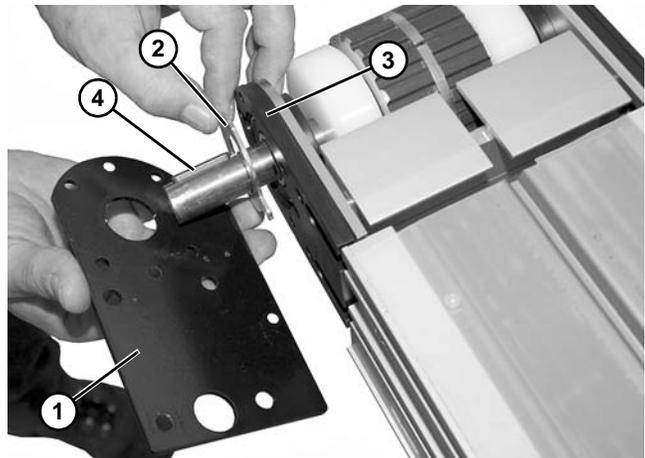

Figure 43
3. Pull back the outer headplate (Figure 43, item 1), and remove the washer (Figure 43, item 2) and inner spacer (Figure 43, item 3).
4. Remove drive shaft keyway (Figure 43, item 4).